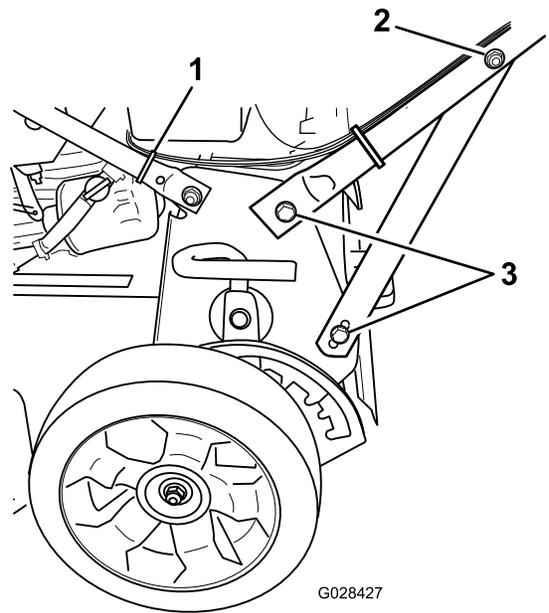

Figure 4
4. Tighten the fasteners that support the handle on both sides of the machine as shown in Figure 4.
2. Nut on handle support bracket (2)
3. Bolt (4)
5. Install a cable tie to secure the cables to the lower handle in the location shown in Figure 4 and trim off the excess material from the tie.